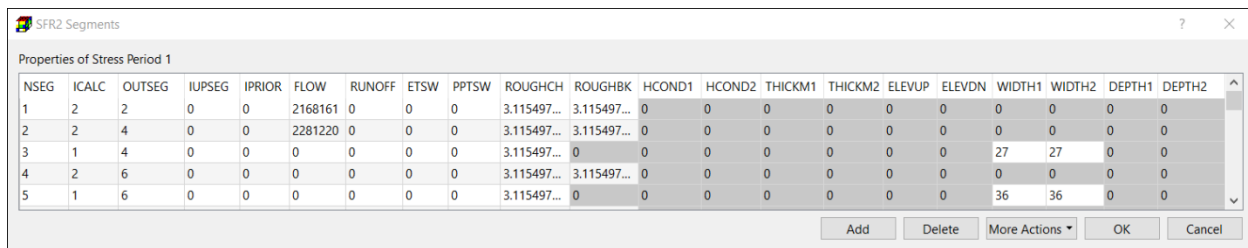

Figure 93. The SFR2 Segments dialog box
- *0: No vertical unsaturated flow beneath streams. Time-varying streambed characteristics:* If this option is selected, streambed characteristics are specified for each stress period using the *SFR2 Segments* dialog box (Figure 93).
- 2: *Simulate vertical unsaturated flow beneath streams. Set UHC to VK. Constant streambed characteristics:* If this option is selected, streambed characteristics are assumed to be constant over time and are specified in the *Time-Independent Reach Properties* group. Saturated vertical hydraulic conductivity for the unsaturated zone is the same as the vertical hydraulic conductivity (VK) of the corresponding layer. This option may not be used in conjunction with the BCF Package.
- 4: *Simulate vertical unsaturated flow beneath streams. Set UHC to VK. Time-varying streambed characteristics.* If this option is selected, streambed characteristics are specified for each stress period using the *SFR2 Segments* dialog box (Figure 93). Saturated vertical hydraulic conductivity for the unsaturated zone is the same as the vertical hydraulic conductivity (VK) of the corresponding layer. This option may not be used in conjunction with the BCF Package.
- *5: Simulate vertical unsaturated flow beneath streams. Use specified UHC. Time-varying streambed characteristics.* If this option is selected, streambed characteristics and the saturated vertical hydraulic conductivity (UHC) for the unsaturated zone are specified for each stress period using the *SFR2 Segments* dialog box (Figure 93).
- **Precipitation boundary.** Use this option if precipitation (i.e., PPTSW in Figure 93) directly to channels is simulated in the flow model and a non-zero concentration (default is zero) is desired.
- **Runoff boundary.** Use this option if you want to assign a non-zero concentration (default is zero) associated with the runoff values (i.e., RUNOFF in Figure 93).
- **Segments:** Click the Edit button to open the SFR2 Segments dialog box (Figure 93). This dialog box contains the Segment Table and several buttons as described below. Each row of the table in this dialog box represents a segment of the current stress period. If the value of a cell in the table is not used for the simulation, the cell is grayed out.